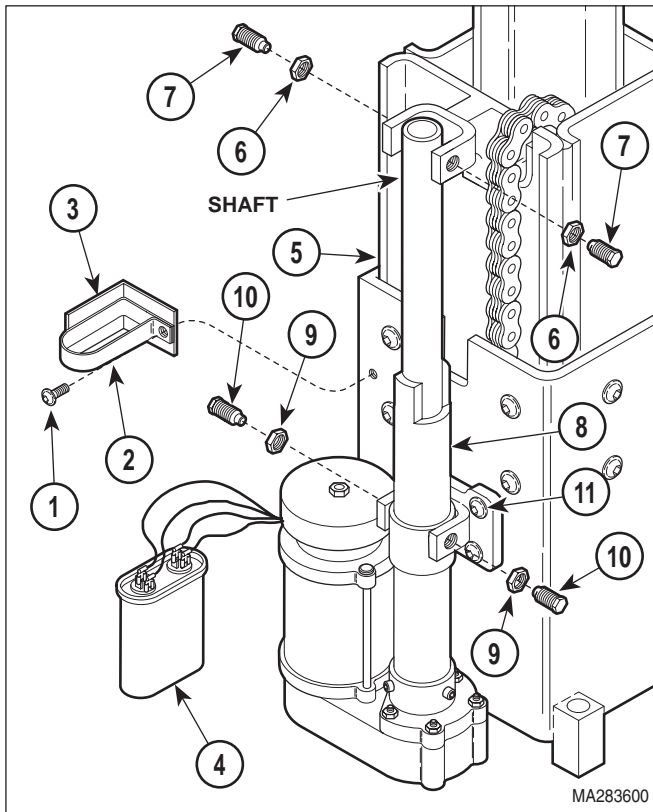

Figure 4-18. Base Actuator Disconnection / Connection
- (5) Remove four screws (4) and R.H. and L.H. middle shrouds (5).
- (6) Disconnect two modular cords (6) from inlet PC board (7).
- (7) Remove four screws (8), four screws (9), two screws (10), and partially remove R.H. and L.H. inner shrouds (11) from base casting (12).
- (8) Place supports under back section and foot section.
- (9) Remove screw (1, Figure 4-18), capacitor strap (2), capacitor bracket (3), and base capacitor (4) from column assembly (5). Allow base capacitor to lay off on side.
- (2) Remove jam nuts (6 and 9, Figure 4-18) from pivot screws (7 and 10).
- (3) Clean adhesive residue from threads of pivot screws (7 and 10).
- (4) Screw jam nuts (6 and 9) on pivot screws (7 and 10) fully.
- (11) Run TABLE UP and / or TABLE DOWN function until shaft of base actuator (8, Figure 4-18) is aligned with bracket of column assembly (5).
- (12) Coat threads of two pivot screws (7), which are directly in front of jam nuts (6), with permanent threadlocking adhesive (Loctite 262).